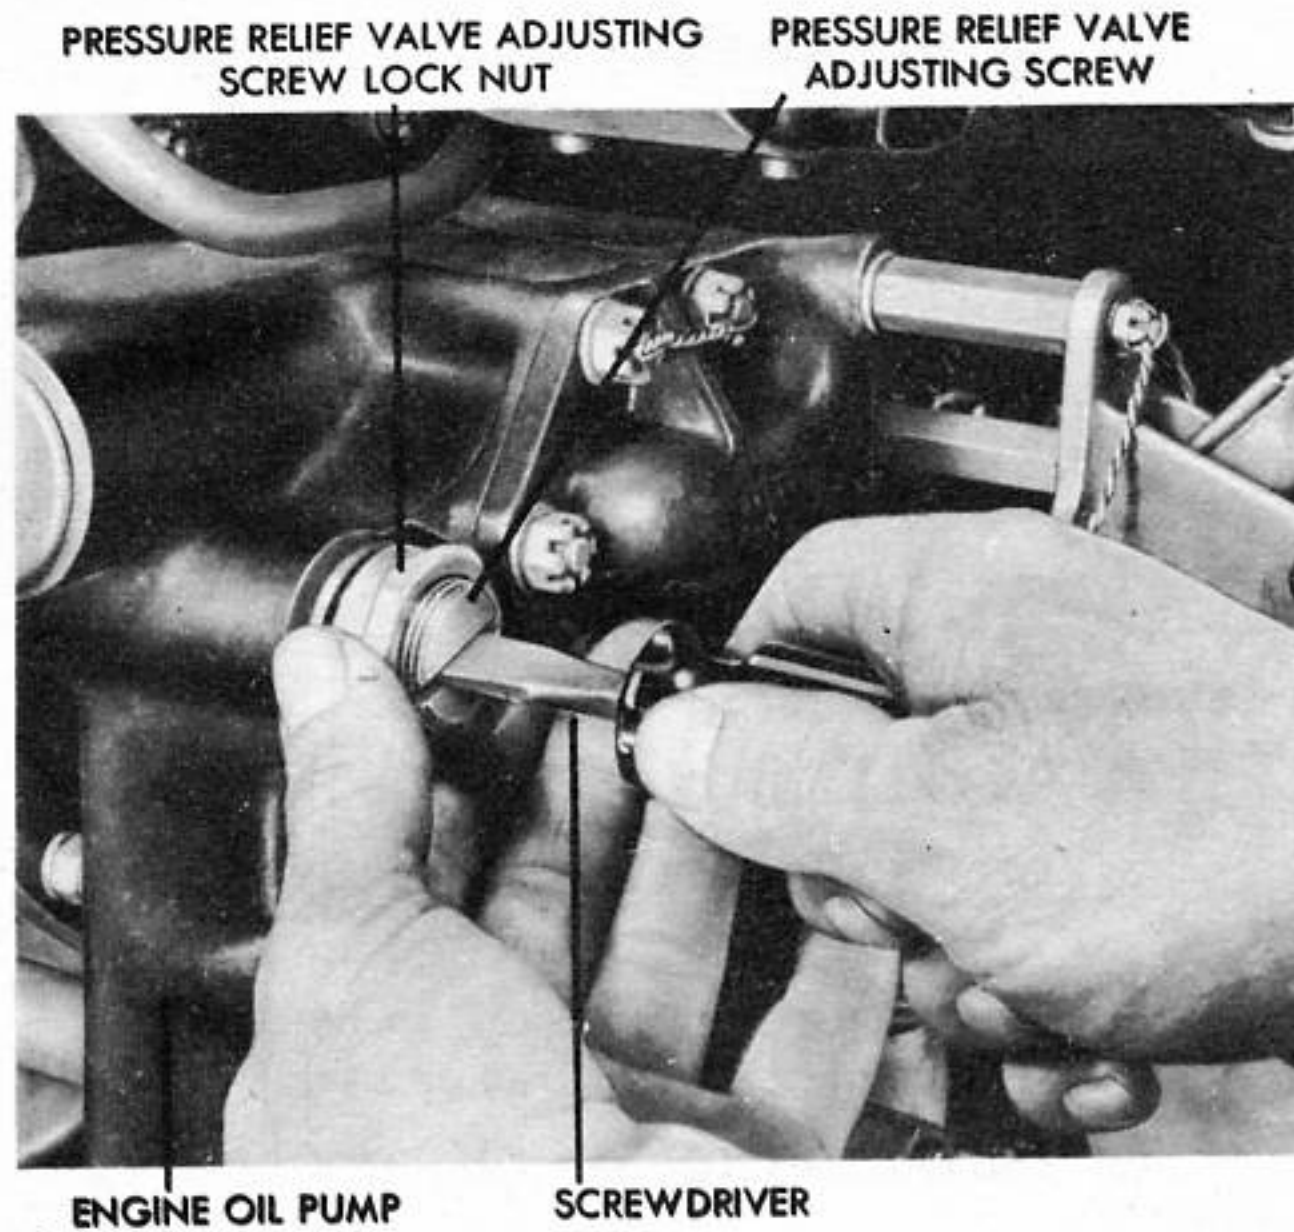

Figure 136 - ADJUSTING OIL PRESSURE RELIEF VALVE
(3) **TEST AND ADJUSTMENT OF ENGINE OIL PUMP AFTER INSTALLATION.** (See figure 136.)
(c) With engine running at 2,000 rpm, and 60 degrees C (140 degrees F) oil inlet temperature, check oil pressure gage, which should read 85, + 15, -5 per square inch. It may be necessary to loosen lock nut and adjust pressure adjusting screw until gage registers 85 pounds. (See figure 136.) One revolution of the screw approximates 12 pounds pressure. Turning screw clockwise increases pressure. Tighten lock nut and install safety after adjustment.